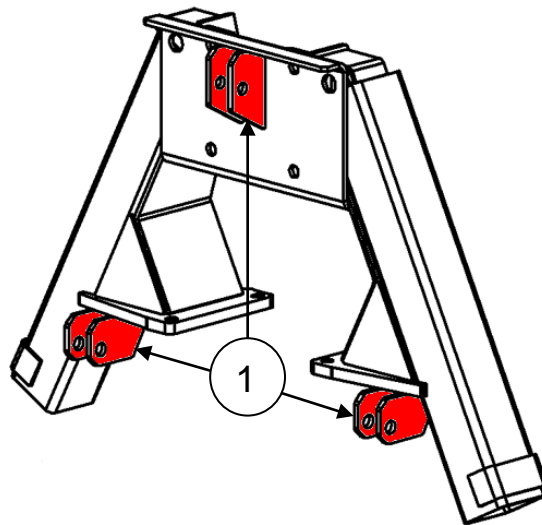

Figure 6.1 Junctions for 3-point linkage on Palms 530 support legs (B3)
Before mounting crane to the 3-point linkage (pos.1, fig. 6.1) make sure that: